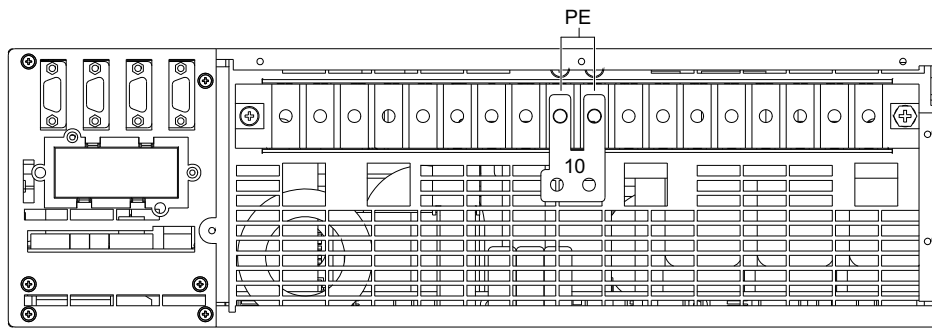

Figure 2-11 Shorted copper bar 10 for PE terminals of the UPS I/O terminal block
7. As shown in Figure 2-11, you can short two PE terminals of the UPS I/O terminal block using the shorted copper bar 10 with insulating film, and connect two screw holes of the shorted copper bar 10 to the PE terminals of the single POD.
8. As shown in Figure 2-11, you can short two PE terminals of the UPS I/O terminal block using the shorted copper bar 10 with insulating film, and connect two screw holes of the shorted copper bar 10 to the PE terminals of the single POD.